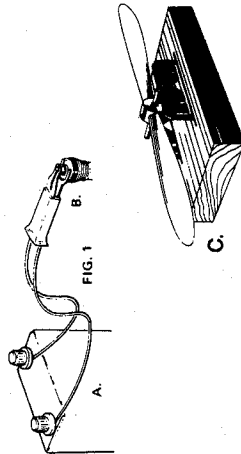

FIG. 1
4. Balance and trim propeller. This is very essential for good performance. Sand off any bead of plastic along the edges of the blades. Fit a drill or shaft through the hole and rest the shaft on razor blades set in wooden blocks. Sand the heavy blade until the propeller will balance in a horizontal position. Care must be taken to do the sanding without spoiling the airfoil characteristics of the propeller blades. Caution: Use only nylon or wooden props. See Figure 1. (C)
6. Connect the battery by connecting the clip on the glow head. B—Fig. 1.